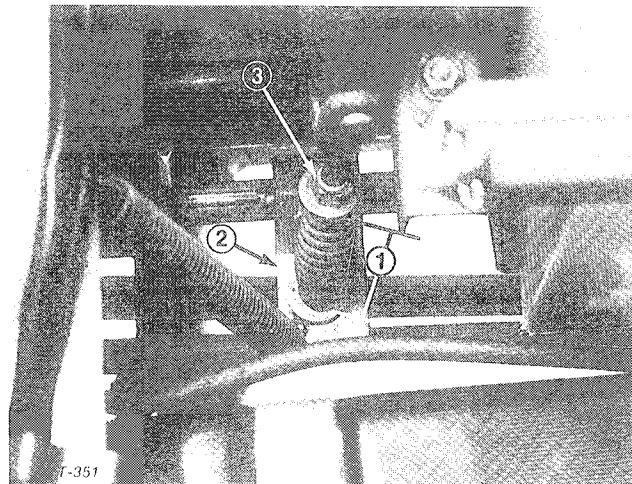

Figure 53
3. Measure length of PTO spring between flat-washers (Fig. 53). There should be a spring length of 3-3/16 inches (81 mm).
4. To adjust, hold head of adjusting screw with wrench (under PTO actuating arm) and turn locknut (Fig. 53).